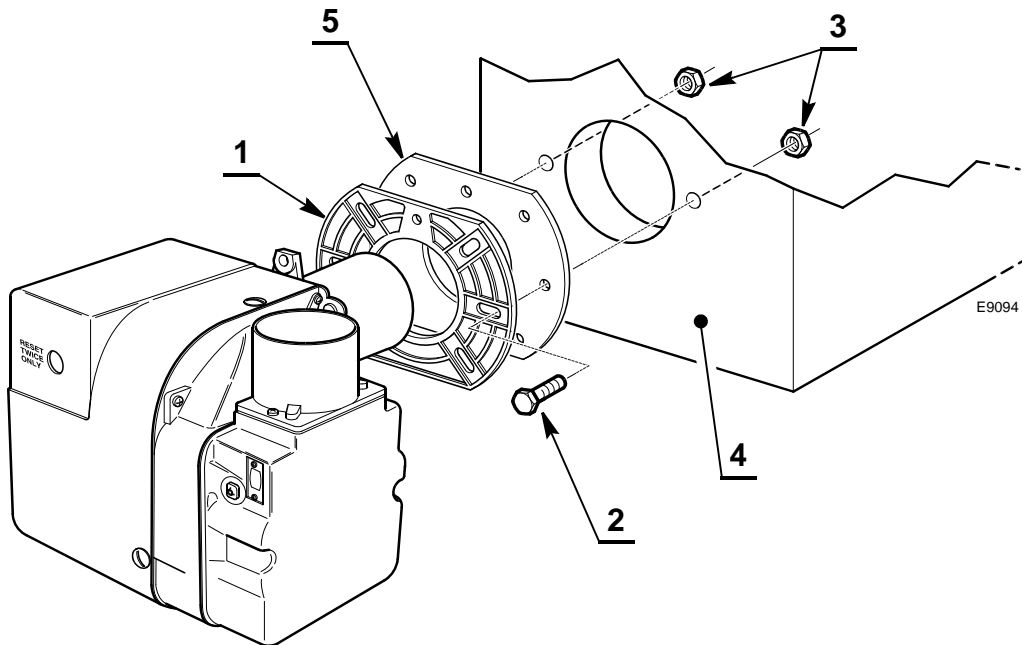

Fig. 7
- Fix the flange 1) to the boiler door 4) using screws 2) and (if necessary) the nuts 3) interposing the insulating gasket 5)(Fig. 7).